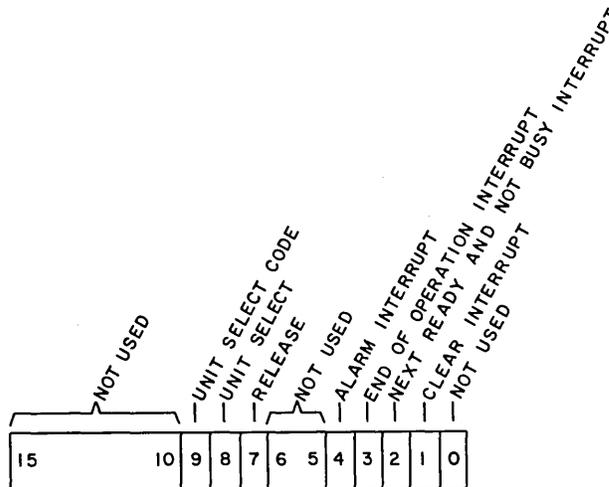

Figure 7. Selectable Bits in A Register
Director Function (001): For this output function, the bits in the A register are available for the selection of interrupts and the drive unit. See Figure 7.